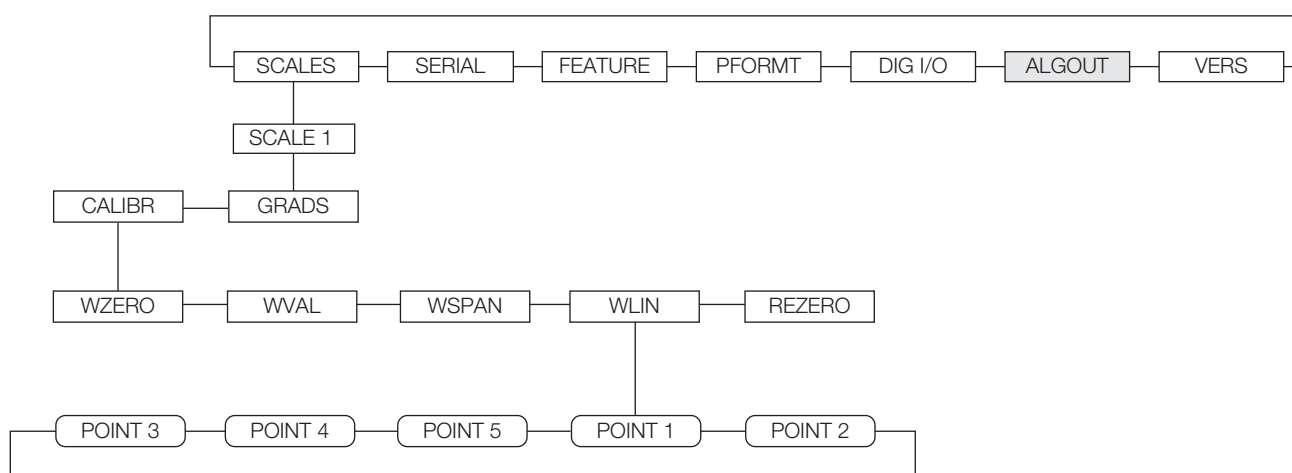
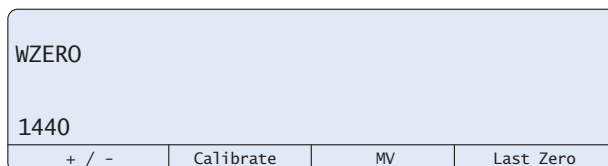

Figure 5-1. Calibration (CALIBR) Submenu
Figure 5-2. WZERO Calibration Display
The CALIBR submenu (within the SCALES menu) is used to calibrate the 720i (Figure 5-2).
2. With the **SCALES** menu highlighted, press the **Down** key then select the scale to be calibrated. Press **Down** again (**GRADS** parameter highlighted) then press **Left** to highlight the **CALIBR** submenu (Figure 5-1 on page 52). Press **Down** to go to zero calibration (**WZERO**) (Figure 5-2).